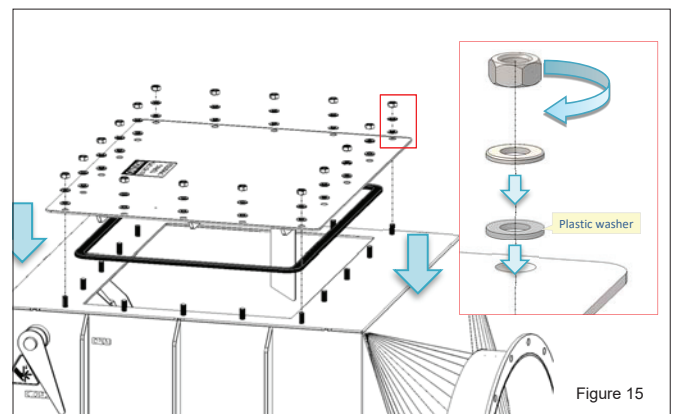

Figure 15
Step 3: Close the inspection as shown in Figure 15. If necessary, renew the sealing tape to make sure it remains airtight.